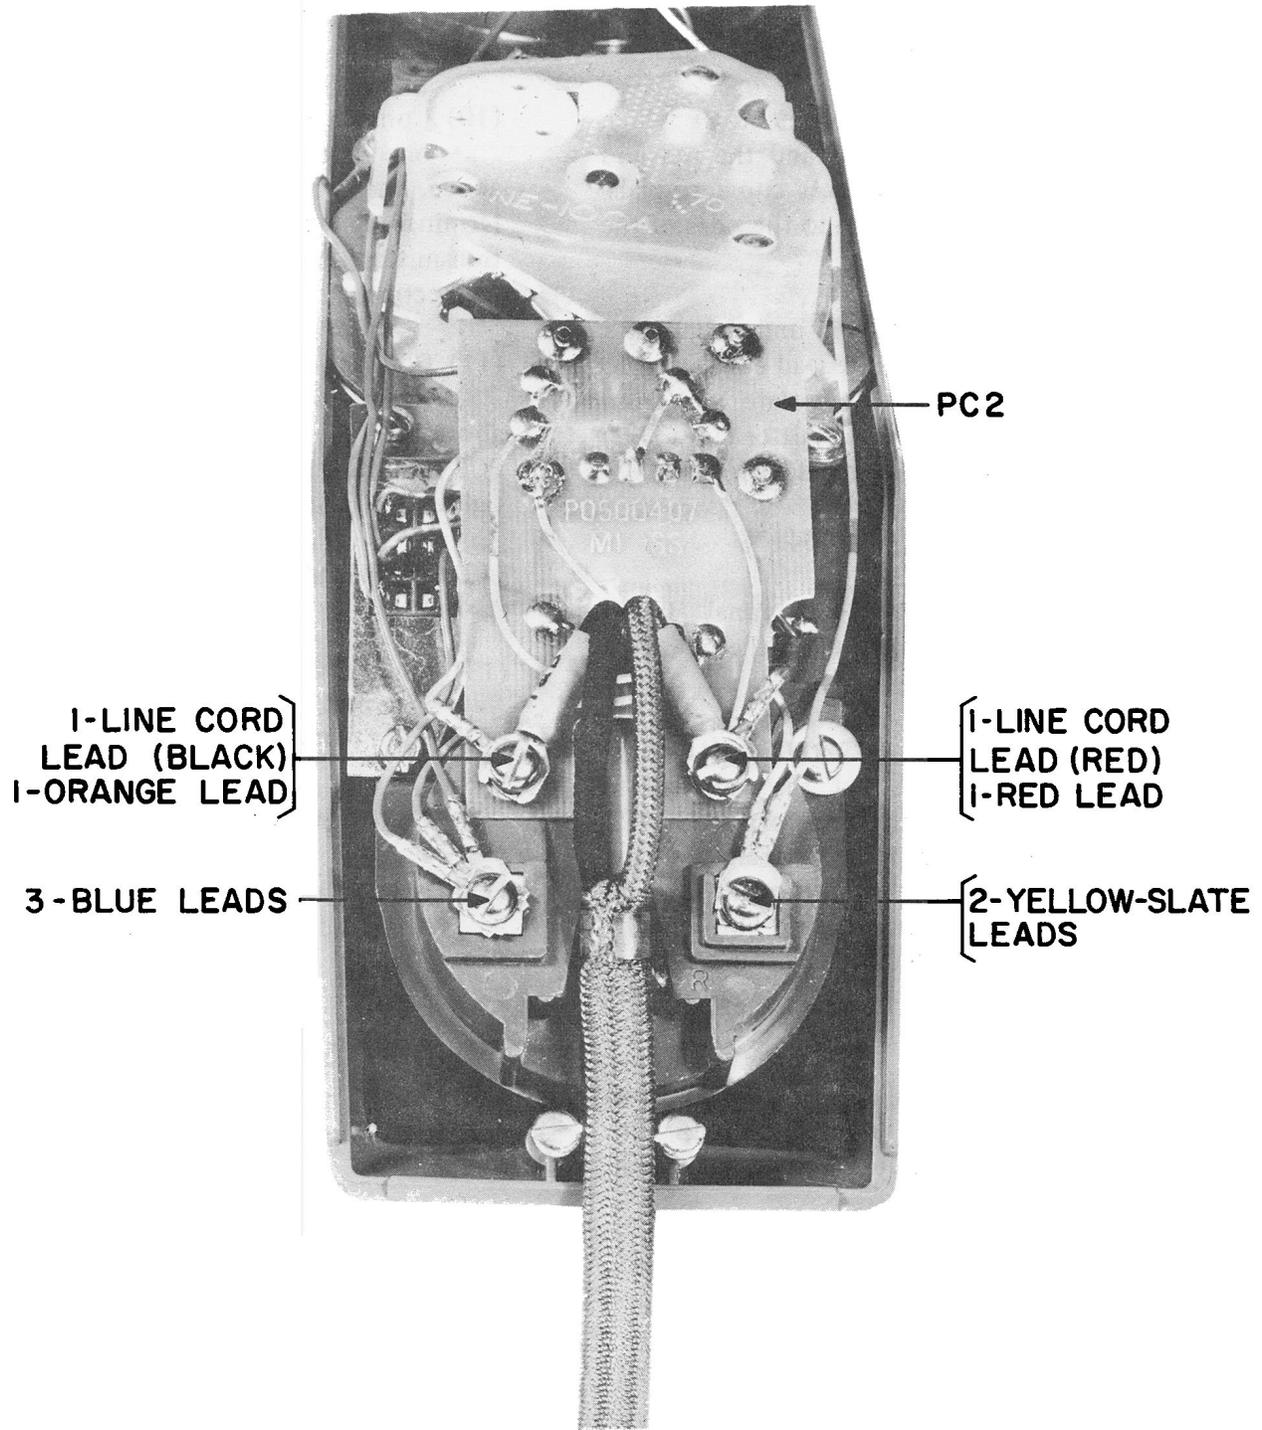

Fig. 10 – QSE4B Type Handset – Cover Removed – Showing Connection of Line Cord and Assembly of PC2 (P0500416) For Conversion Purposes
(1) See 4.02 for instructions on opening the handset.
(2) Disconnect and replace line cord, ensuring that the cord is properly dressed in the housing (see Fig. 10).
- (1) Open handset as described in para. 4.02.
- (2) Remove the two screws (item 6) which fasten the line cord leads and the red and orange leads to the transmitter cup terminals. Fold the red and orange leads to the sides of the handset.
- (3) Remove slate-red lead from under dial plate screw (item 1), the white lead connected to terminal C of PC2, the yellow-slate lead from under terminal R on the transmitter cup (TB2) and the red and blue leads from TB2 to S3.
- (4) Remove original PC2 (P0500417).
- (5) Insert slate-red lead into terminal B and white lead into terminal C on the new PC2 (P0500416).
- (6) Carefully place new PC2 (P0500416) into position and ensure that the yellow-slate lead is dressed between the transformer on PC2 and the transmitter cup (item TB2) and that the transformer bobbin rests on the raised portion of the instrument section housing between the dial and pushbutton (item S1). The bracket of the transformer should now be located over the pushbutton.
- (7) Connect the yellow-slate lead from PC2 to terminal "R" of the transmitter cup with the existing yellow-slate lead on that terminal.
- (8) Insert the two screws (item 6) through the mounting holes in PC2 and into the terminal screw holes in the transmitter cup.
- (9) Ensure that the line cord is passed through the cord hole in the handset back cover (item 23B).
- (10) Connect the red lead, which was moved to one side of the handset in sub-para. 2 above, and the red lead of the line cord, to the terminal immediately above terminal "R" on the transmitter cup (see Fig. 10). Tighten this connection.
- (11) Connect the orange lead which was moved to one side of the handset in sub-para. 2 above, and the black line cord lead to the other PC2 mounting terminal (rocker switch side) and tighten the mounting screw (see Fig. 10).
- (12) Dress leads and line cord as shown in Fig. 10.
- (13) Replace handset back cover, line cord grommet and card retainer window as outlined in para. 4.09.